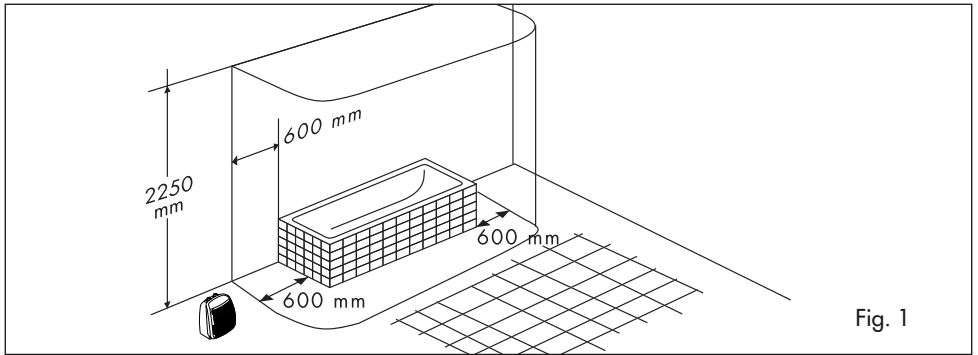

Fig. 1
- If the appliance is used in a room with bath or shower, respect the "safety distances" shown in fig. 1 and always install away from taps, basins, showers, etc. The appliance must not be placed immediately under a fixed power socket.